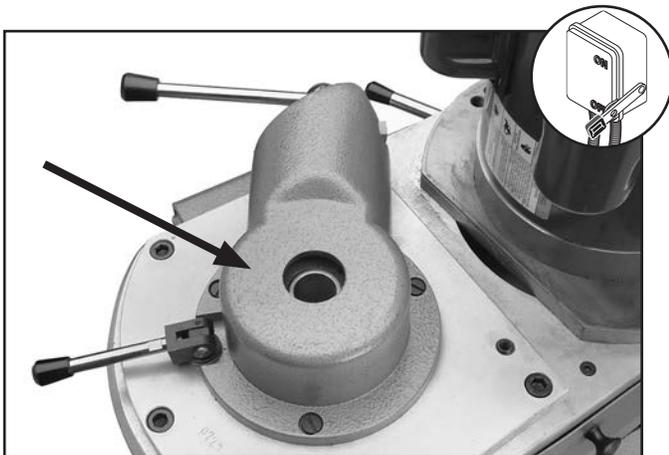

Figure 73. Upper spindle cover.
2. Remove the drawbar and upper spindle cover (see **Figure 73**).